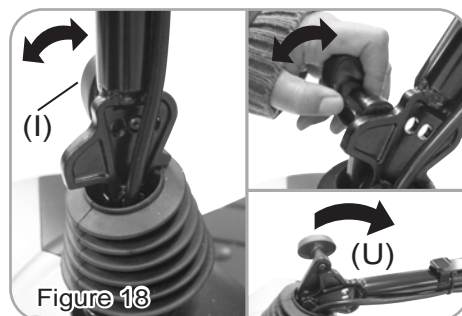

Figure 18
Turn the Cap (I) to fold down the Tiller (U) to the lowest position as shown in Figure 18. When the Tiller (U) is in the lowest position it can be locked by the pin of tiller angle adjustment.